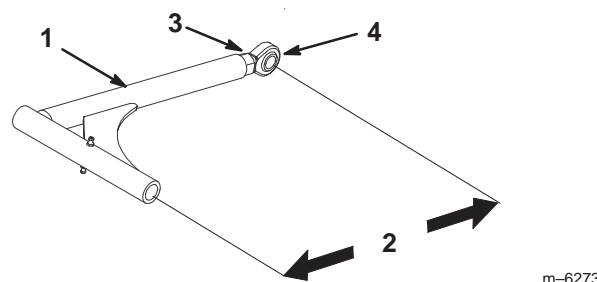

Figure 56
1. To adjust the push arms, loosen the jam nut and rotate the ball joint counterclockwise, one turn at a time.(Fig. 56).
2. Adjust each side the same amount. Each push arm should have a nominal length of 15-5/16 inch (389 mm) (Fig. 56).